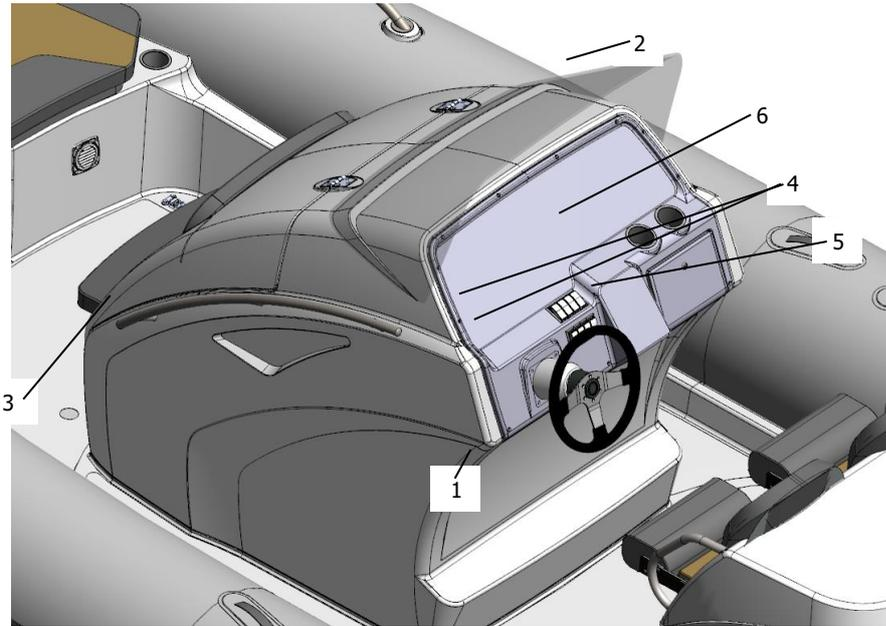

Fig. 60. Steering console components (see the list on the next page).
***Steering console components*** (see fig. 60 on the previous page):